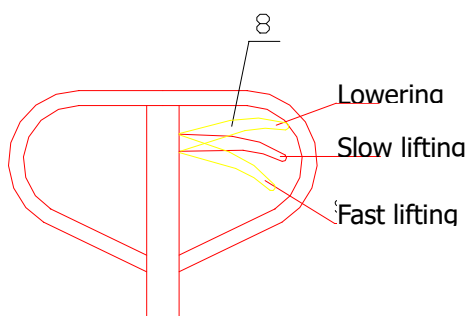
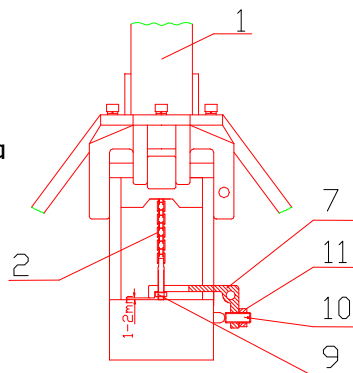

Fig 3
Fig 4
3.4 See Fig. 3. Position Trigger (8) at Fast Lifting, and adjust Nut (10) at the end of Roller Chain (2) to raise Level Pad (7) at a gap of 1-2mm from the pedestal. This procedure is usually unnecessary for a new truck. See Fig. 4.
3.5 Try shaking the handle and operate at the different gears of Trigger (8) to see whether the truck works well at fast lifting, slow lifting and lowering. See Fig. 3.
3.6 Screw (10) in Fig. 4 is used for modification of the truck. In the event that the truck body lowers shortly after rising or is unable to lift fast, turn Screw (10) a little in counterclockwise before trying the truck again. In the event that the truck body is unable to lower, turn Screw (10) a little in clockwise and then try the truck again until it restores normal lowering. Hexnut (11) at Screw (10) functions as a lock, so it should be fastened before modification and locked after modification.